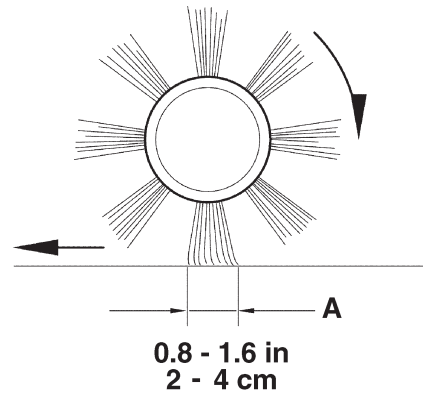

Figure 3
- Check that the main broom print (A, Fig. 3), along its length, is 2 to 4 cm wide.
*If it is not possible to adjust the print (A, Fig. 3) properly, because the pressure on the floor at the ends of the broom is different, refer to the Service Manual.*